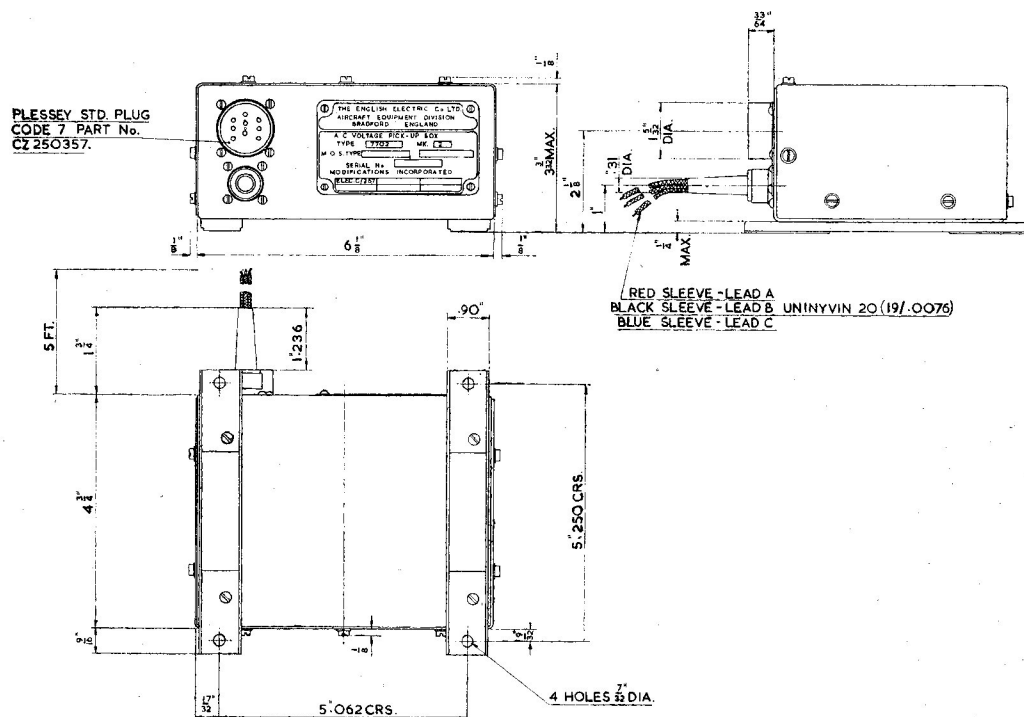

Fig. 4. Installation diagram
12. The mounting of the unit in the aircraft is made through the four holes situated in the feet (*fig. 4*) and may be fitted in any attitude.